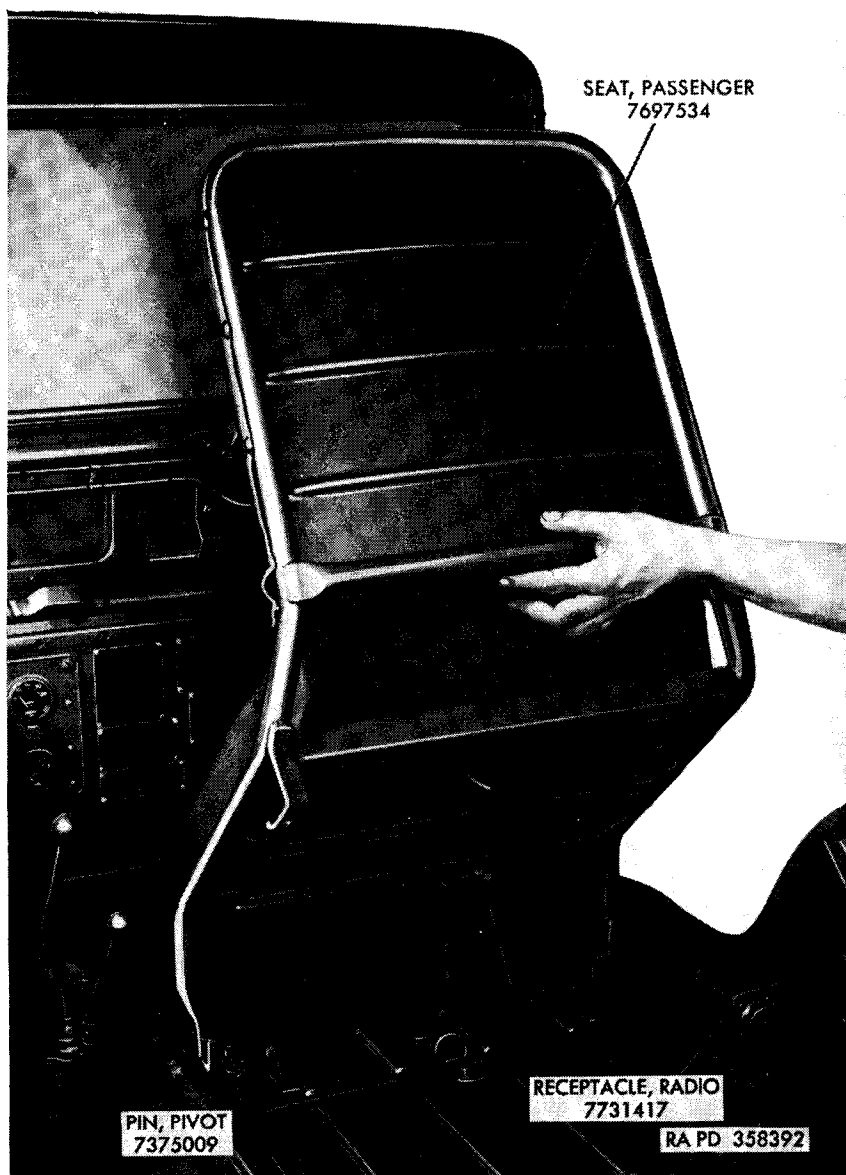

Figure 14. Removing passenger seat.
- (1) *Driver's seat.* Remove the four cap screws with internal-teeth lock washers, securing the driver's seat; remove seat from vehicle.
- (2) *Passenger seat (fig. 14).* Remove the two front seat pivot pins. Grasp passenger seat and pull forward until hinge pivot is free. Remove passenger seat from vehicle.